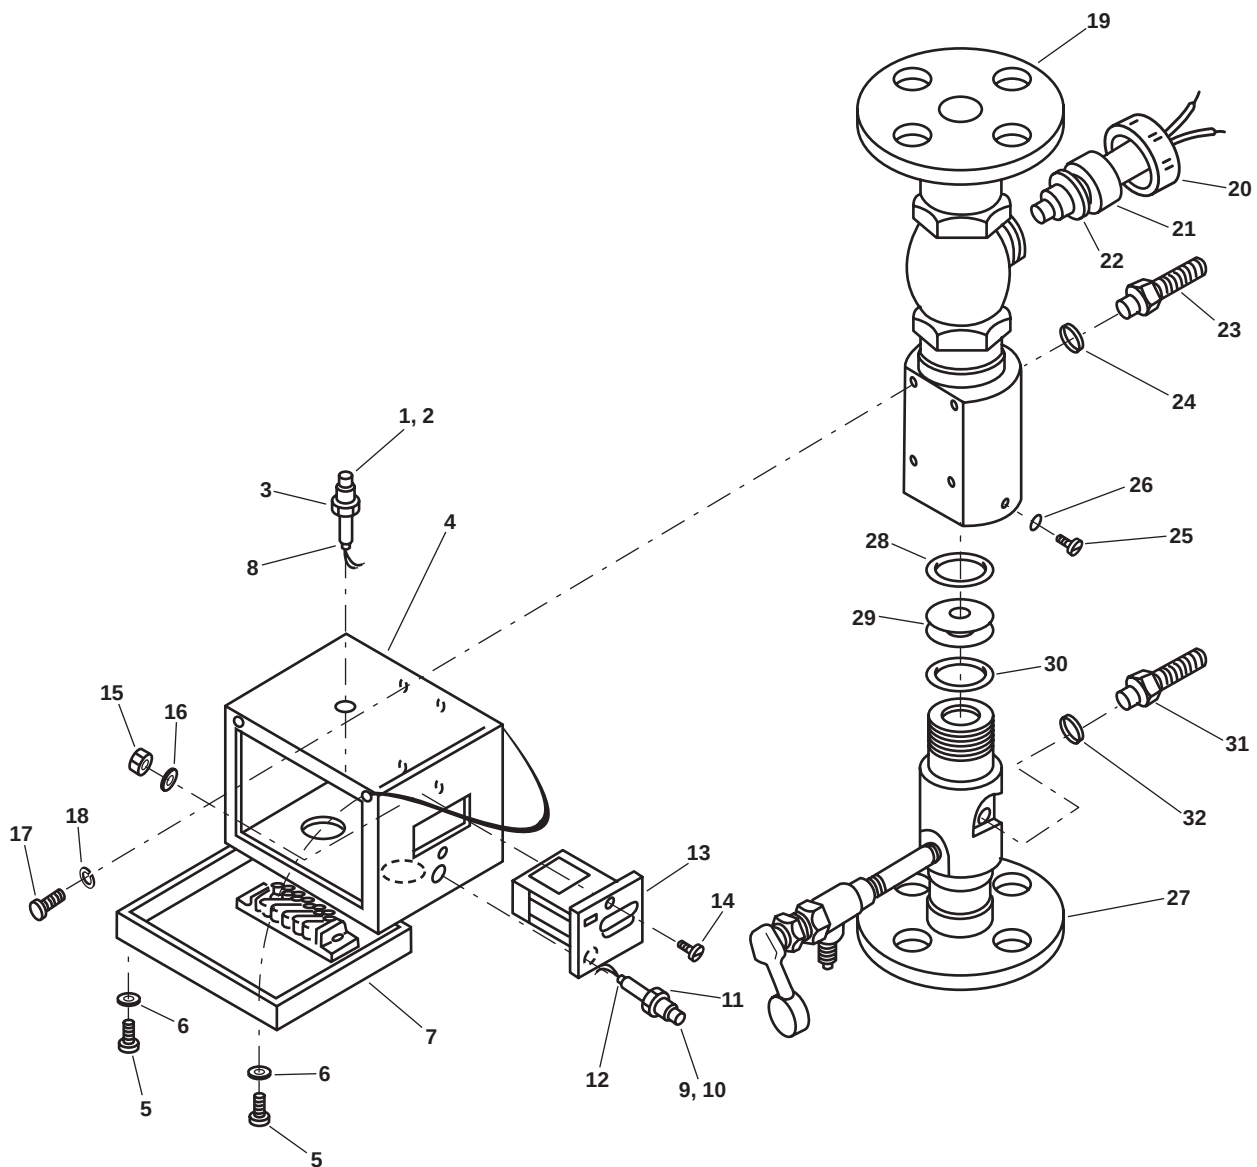

Figure 1. Bypass Header Assembly
1. Unscrew and remove the light indicator lens cap (figure 1, item 1) and lamp (figure 1, item 2) from the indicator light housing (figure 1, item 3).
2. Remove the indicator light housing (figure 1, item 3) from the electrical box (figure 1, item 4).
3. Remove the two screws (figure 1, item 5) and two washers (figure 1, item 6) securing the cover (figure 1, item 7) of the electrical box (figure 1, item 4). Open the cover.
4. Remove the indicator light housing (figure 1, item 3) wires (figure 1, item 8) using a soldering iron.
5. Unscrew and remove the light indicator lens cap (figure 1, item 9) and lamp (figure 1, item 10) from the indicator light housing (figure 1, item 11).
6. Remove the indicator light housing (figure 1, item 11) wires (figure 1, item 12) using a soldering iron. Remove the indicator light housing from the time totalizer meter (figure 1, item 13).
1. Connect the indicator light housing (figure 1, item 11) wires (figure 1, item 12) using a soldering iron. Install the indicator light housing into the time totalizer meter (figure 1, item 13).
2. Install the lamp (figure 1, item 10) into the indicator light housing (figure 1, item 11).
3. Thread the lens cap (figure 1, item 9) into the indicator light housing (figure 1, item 11) until it is finger tight.
4. Connect the indicator light housing (figure 1, item 3) wires (figure 1, item 8) using a soldering iron.
5. Install the indicator light housing (figure 1, item 3) into the electrical box (figure 1, item 4).
6. Install the lamp (figure 1, item 2) into the indicator light housing (figure 1, item 3).
7. Thread the lens cap (figure 1, item 1) onto the indicator light housing (figure 1, item 3) until it is finger tight.
8. Close the cover (figure 1, item 7) of the electrical box (figure 1, item 4) and install the two screws (figure 1, item 5) and two washers (figure 1, item 6) securing the cover of the electrical box.
1. Remove the two screws (figure 1, item 14), the two nuts (figure 1, item 15), and the two flat washers (figure 1, item 16) securing the time totalizer meter (figure 1, item 13) to the electrical box (figure 1, item 4).
2. Remove the time totalizer meter (figure 1, item 13) from the electrical box (figure 1, item 4).
1. Install the time totalizer meter (figure 1, item 13) in the electrical box (figure 1, item 4).
2. Install two screws (figure 1, item 14), two nuts (figure 1, item 15), and two flat washers (figure 1, item 16) securing the time totalizer meter (figure 1, item 13) to the electrical box (figure 1, item 4). Tighten the two screws.